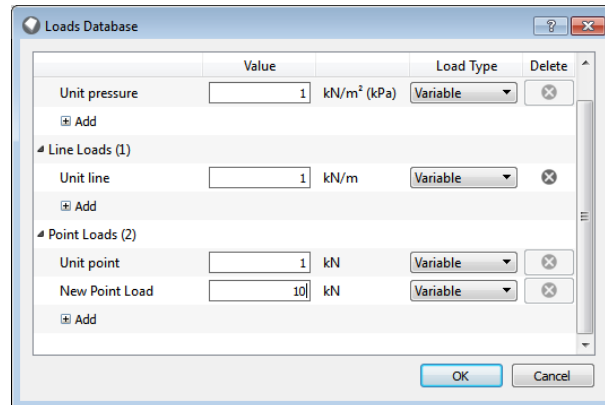

Figure 17.2: Adding a new point load in the **Loads Database**
- In the **Loads Database** (see Figure 17.2), scroll to the *Point Loads* section and select the *Add* option (+).